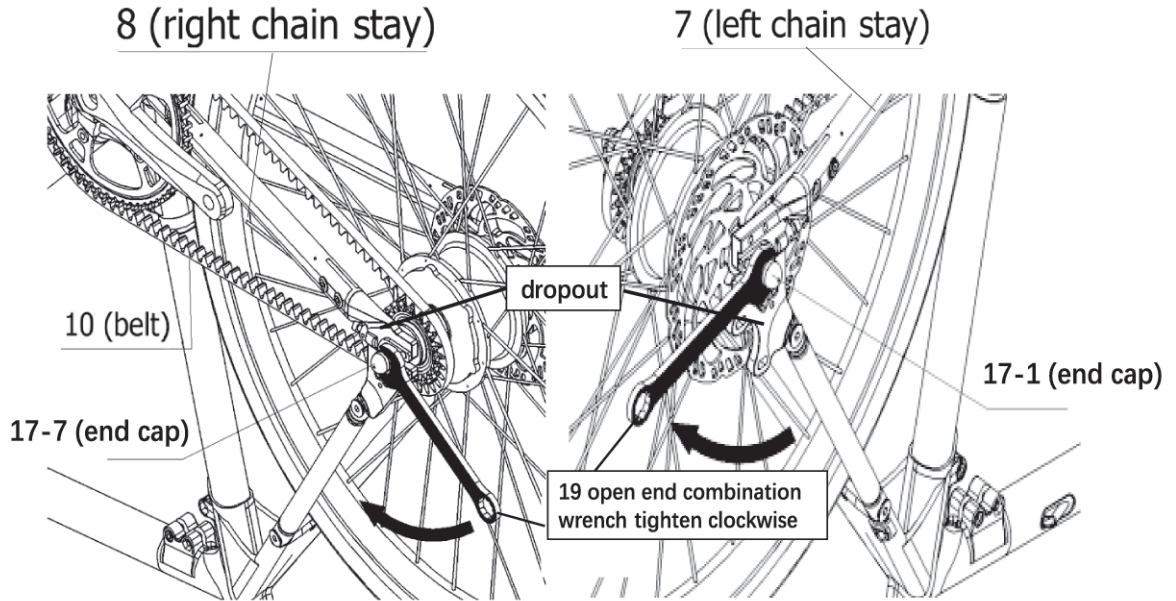

Figure 34.
i. Use a 19 open-end combination wrench to tighten the left and right end caps clockwise, as shown in Figure 34.